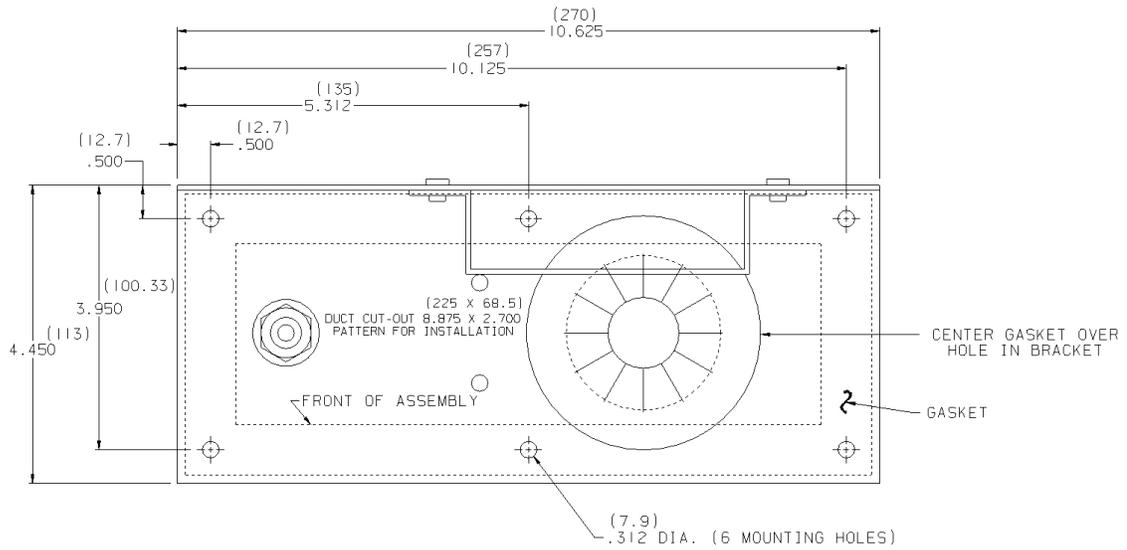

Fig. 46 Duct Template
- (1) Locate the duct to be sampled.
- (2) Cut a rectangular hole [8.875 by 2.7 inches (225 by 68.5 mm)] in the duct (Fig. 46 "Duct Template").